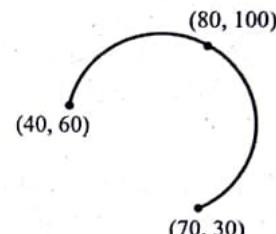

FIG. 14.10
**Example :** Draw an Arc of circle passing through three points having coordinates (40, 60); (80, 100) and (70, 30). Refer figure 14.10.